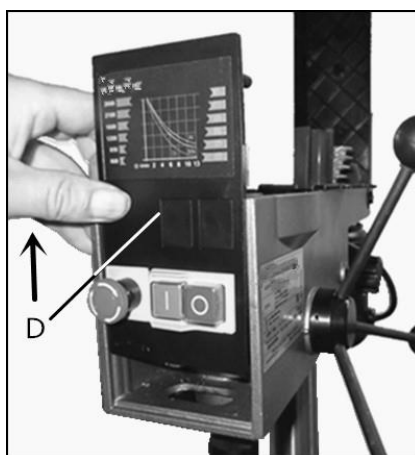

Fig 13
- (iii) Pull out the front panel (D, Fig 13)